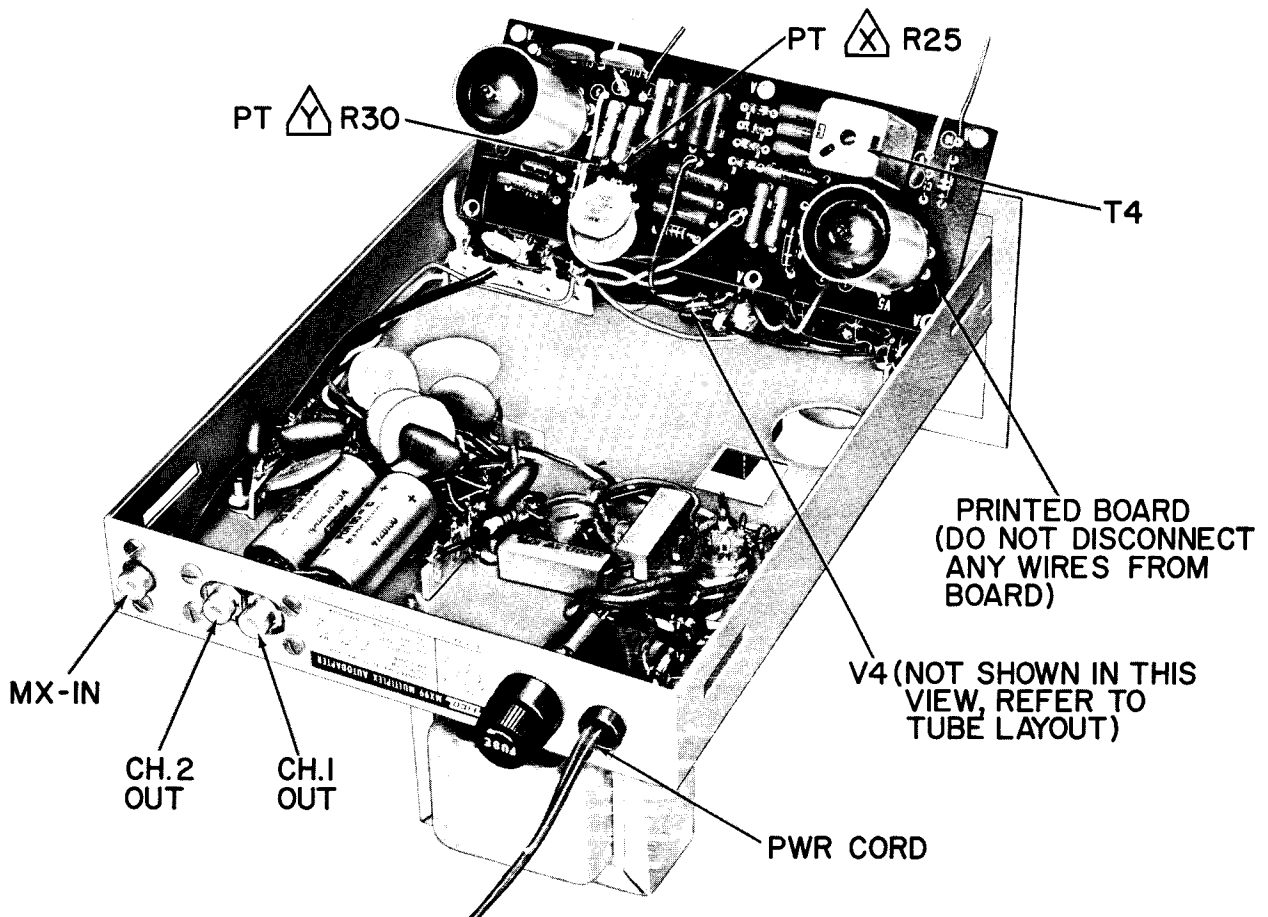

Figure 6-1. Service Alignment (Board Removed)
2. Disconnect R25 (100K ohm, 1% resistor) from pt. X on board. (See Fig. 6-1). This point is called out on the schematic diagram also.
3. Disconnect R30 (100K ohm, 1% resistor) from pt. Y on board. (See Fig. 6-1). This point is called out on the schematic diagram also.